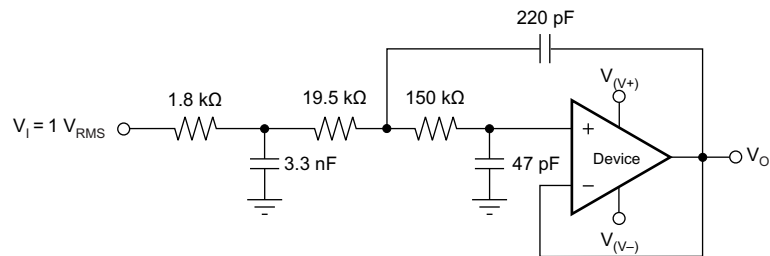

Figure 35. OPA356-Q1 Configured as a Three-Pole, 20-kHz, Sallen-Key Filter
3. Using a noninverting filter topology, such as the Sallen-Key (see Figure 35).